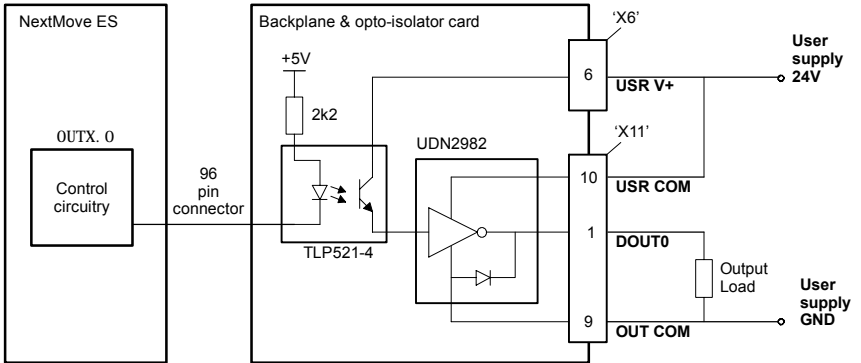
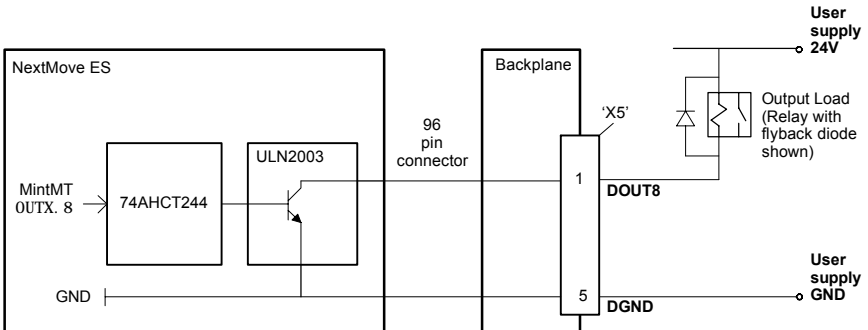

Figure 37 - Digital output circuit (DOUT0-7) with 'PNP' current sourcing module - DOUT0 shown
Figure 39 - Digital output circuit (DOUT8-11) - DOUT8 shown
* The BPL010-502 and BPL010-503 opto-isolating cards use different output driver ICs, as shown in Figures 37 and 38. Due to the pin configuration of these ICs, the functions of the X11 connector's USR COM and OUT COM pins are different on the PNP and NPN cards.
An external supply (typically 24VDC) is used to power the UDN2982 output devices, as shown in Figure 37. When an output is activated, current is sourced from the user supply through the UDN2982, which can source up to 75mA per output (all outputs on, 100% duty cycle). Connect OUT COM to the user supply GND. This will connect internal transient suppression diodes on all outputs. If an output is used to drive a relay, a suitably rated diode must be fitted across the relay coil, observing the correct polarity (see Figure 39). The use of shielded cable is recommended.
An external supply (typically 24VDC) is used to power the UDN2803 output devices and drive the load, as shown in Figure 38. When an output is activated it is connected to USR COM through the ULN2803, which can sink up to 150mA per output (all outputs on, 100% duty cycle). Connect OUT COM to the user supply 24V. This will connect internal transient suppression diodes on all outputs. If an output is used to drive a relay, a suitably rated diode must be fitted across the relay coil, observing the correct polarity (see Figure 39). The use of shielded cable is recommended.